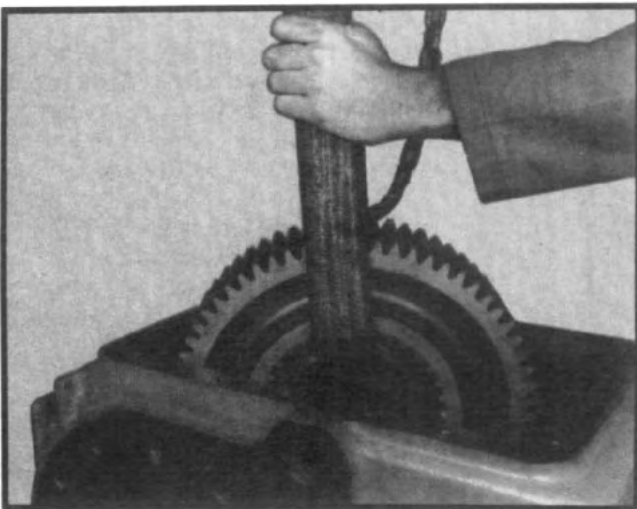

Fig. 59
- 2.26 Lift underdrive gear out of the case. (See fig. 59.)